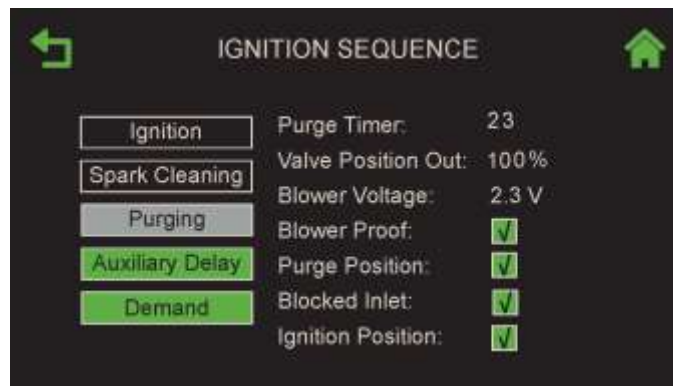
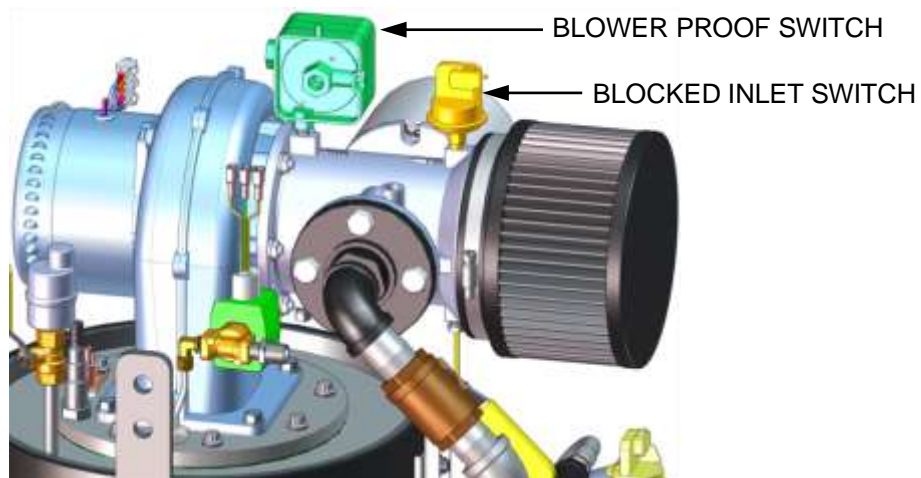

Figure 3-3: Ignition Sequence Screen – Purging
Figure 3-4a: BMK750 & 1000 Blower Proof Switch
- Next, the Blower Proof and Blocked Inlet switches close (Figure 3-4a and 3-4b). On the Ignition Sequence screen, the **Purging** indicator turns grey while purging is underway (Figure 3-3), and **Purge Timer** displays the purge cycle's elapsed time in seconds.
- b) The Spark Cleaning cycle begins (default duration = 7 sec.) and the Ignition Sequence screen's **Spark Cleaning** indicator (Figure 3-3) turns grey. This cycle turns on the ignition transformer to produce a spark (with no gas flowing) to remove moisture and carbon buildup from the spark element. For the duration of this cycle, the Controller displays the **Cleaning Igniter** status message.
- c) Following the Spark Cleaning cycle, power is applied to the gas Safety Shut-off Valve (SSOV). When the SSOV indicates the Gas Valve is OPEN (POC) and the Ignition Sequence screen's **Ignition** indicator (Figure 3-3) turns grey.